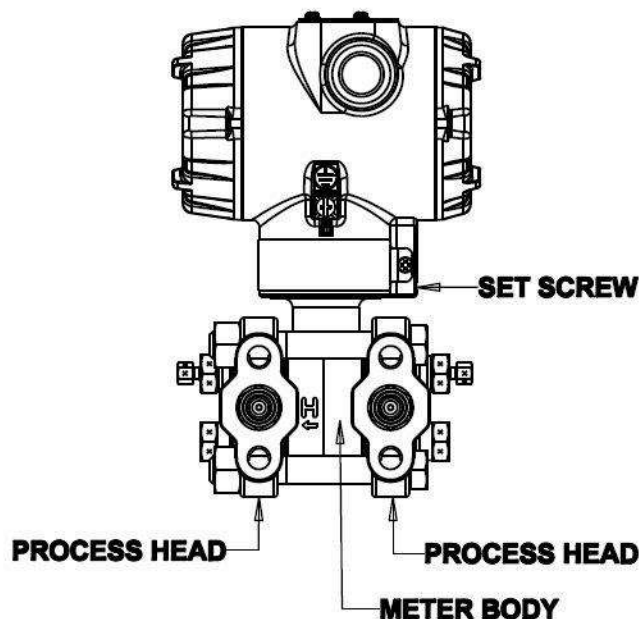

**Figure 64 – ST 700 Basic Transmitter - Disassembly for Meter Body Replacement**
4. Refer to Figure 64. Loosen the End Cap Lock, and unscrew the End Cap from the electronics side of the Transmitter housing.